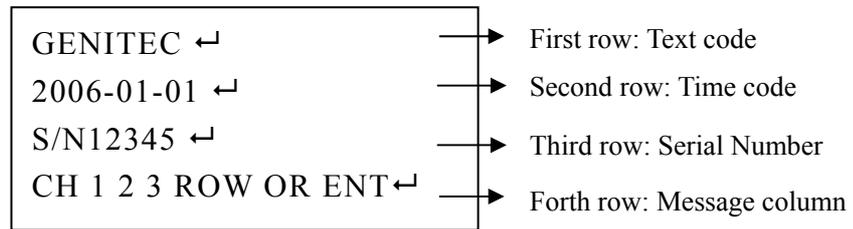

Figure 22
1. Press the button  (Entry the page to modify) , the message column will display "CH 1 2 3 ROW OR ENT←" (Refer to figure 22) :